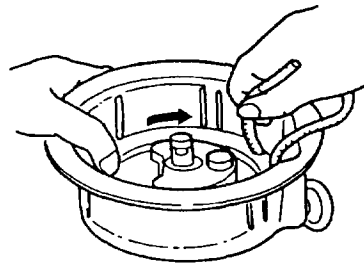

Figure 6-33 Recoil starter rope
- 2) Wind the starter rope around the reel to the arrow mark direction as shown in Figure 6-33. Take out the rope from reel's notch at the 2.5 turns, fit the reel's hook to the inner, end of the spring, and reassemble the reel correctly into the starter case. (The reel's hook can't be seen on reassembly, so take care to reassemble correctly.)